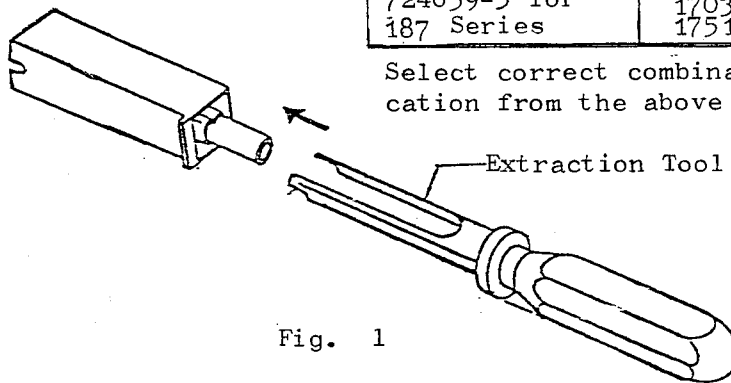
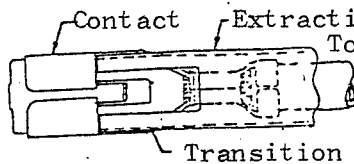

Fig. 1
Fig. 2
- (a) Insert tip ends of the tool into housing from the wire side of housing, until they reach the contact feeling lightly. At this moment, the tip ends must rest on the transition area of contact. Refer to Fig. 1 and Fig. 2.